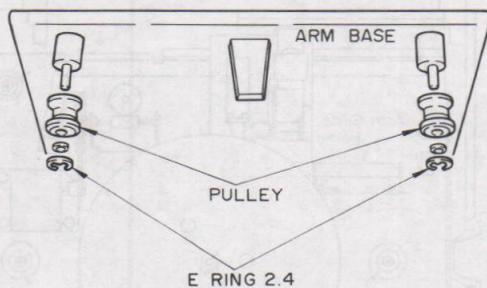

Fig. 15
- 3) Remove dial thread from pulley and remove fixing screws (C) in Fig. 15.